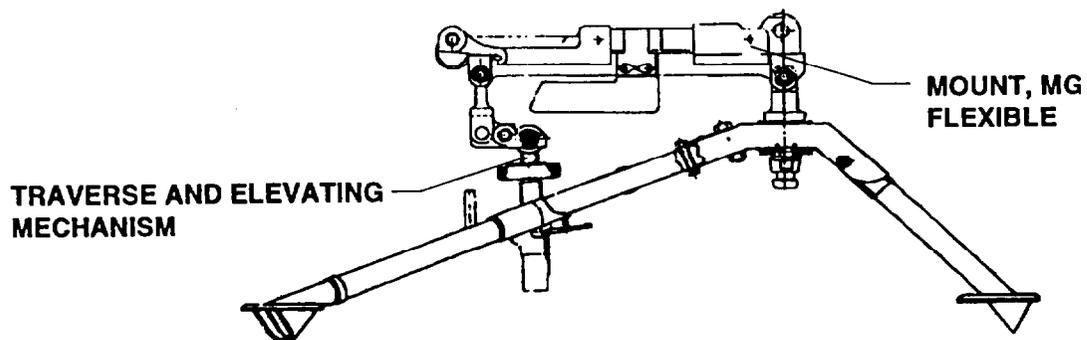

Figure 3
15. MATERIEL CHANGE (MC) NUMBER. This MWO is authorized by MC number 1-97-05-7926.
16. **MODIFICATION IDENTIFICATION.** The M122A1 MG Tripod consists of a Flexible MG Mount with the following parts from the M122 MG Tripod Mount: traversing and elevating mechanism, PN 7791119; leg assembly, PN 12976948; grooved headless pin, PN 7792993; and the two retaining rings, PN MS16624-1043. See Figure 3 below for illustration of tripod after completion of this MWO.